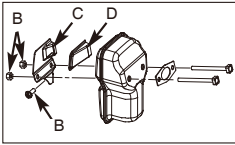

Fig. 17B
2. Remove the 2 screws that hold the cover (C). (Fig.17B)
3. Discard the used spark arrester screen (D) and replace it with a new one.